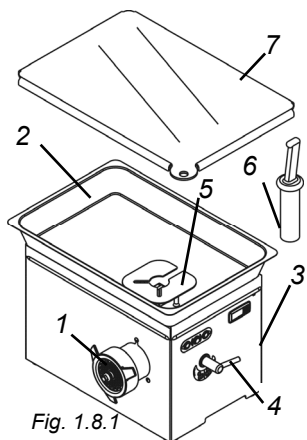

Fig. 1.8.1
The hopper, in the model, shows the guard "2" Fig.1.8.1 rigidly fixed, in accordance with the circular of the Ministry of Labour and Social Insurance No. 66 of 05.09.79. The smaller models do not require this guard due to the small size of the loading feed.
3. Make sure that it is in the correct position, with the milled rear end of the worm perfectly slotted into the drive pin, then lock it with the tightening lever (ref. 4, see Fig. 1.8.1).